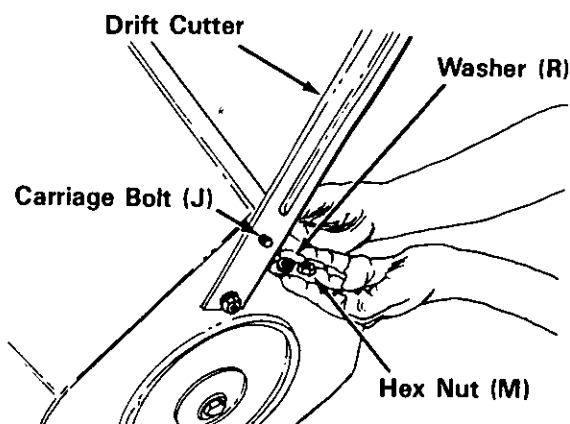

FIGURE 20
26. Using a 1/2" wrench, remove the carriage bolts, lock washers and hex nuts holding the drift cutters to the snow thrower housing. Turn and place the drift cutters in position. Secure with the carriage bolts (J) (heads of bolts are to the inside of the housing), lock washers (R) and hex nuts (M). See figure 20.